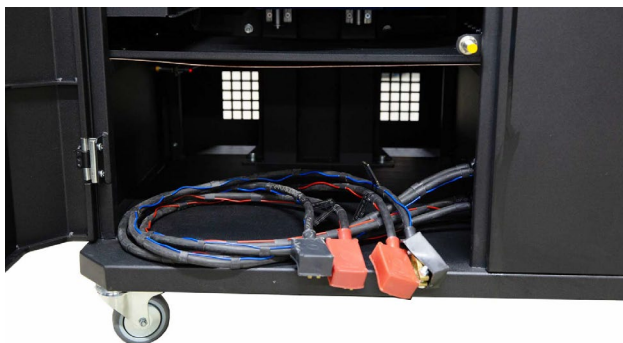

Figure 13. Location of the storage batteries in the bench.
1. Connect 12 V batteries (DC), which must be placed in the battery compartment of the test bench (see Fig. 13). Use the keys (included in the kit) to open the left door. When connecting the batteries, follow the markings on the power cables. If only one battery (Battery 1 or Battery 2) is connected, only the 12 V diagnostic mode will be available. The 24 V and 48 V modes will be unavailable.